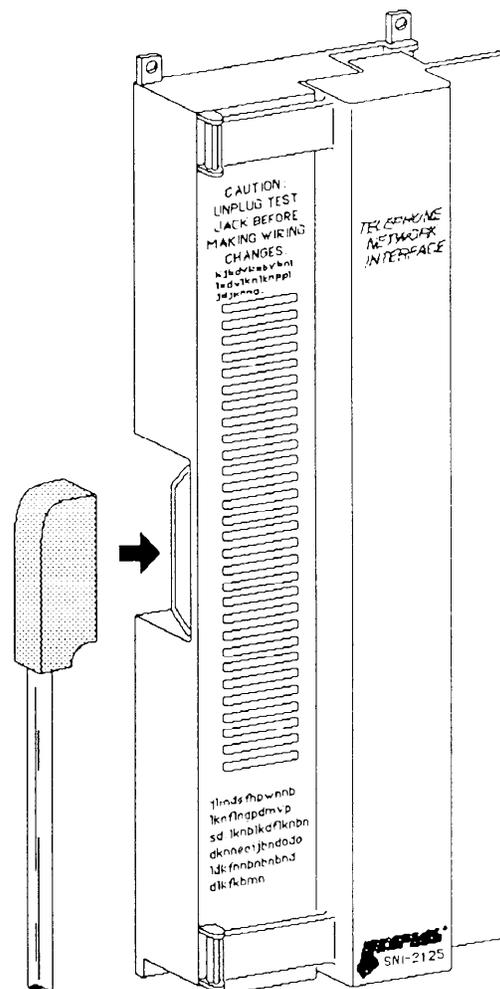

Fig. 3—Connecting 25-pair cable to the SNI-2125
3.03 Attach telco lines via RJ-21 standard orientation male connector on side of unit (refer to figure 3). Secure connector using retainer strap provided.
**3.07** Using the four #8 screws provided, mount the Auxiliary Mount Brackets to the back of the SNI-2125 as indicated in figure 3.